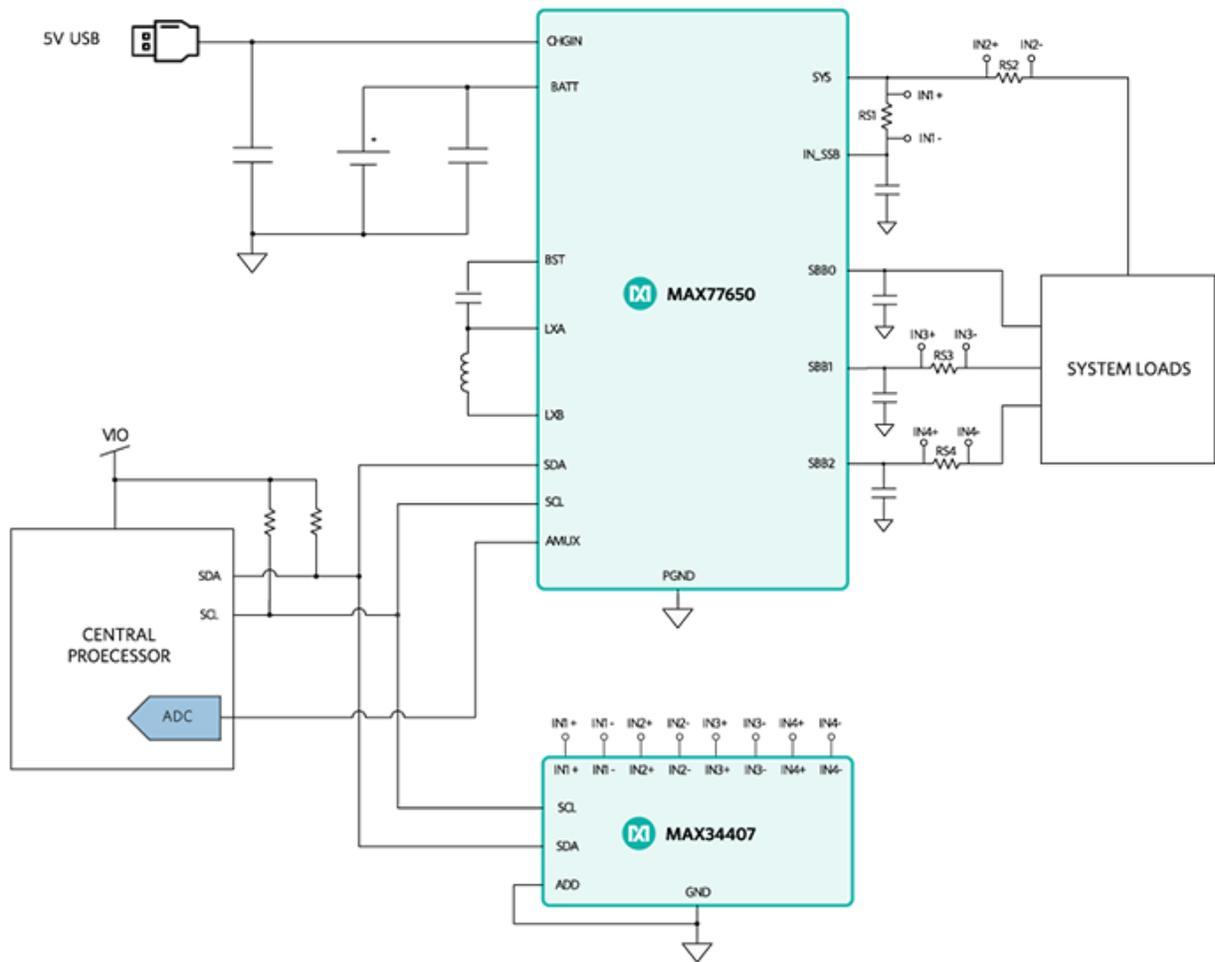

Figure 6. PMIC power monitoring.
**Figure 6** depicts a typical PMIC power monitoring application circuit using the MAX34407 power accumulator and MAX77650 PMIC. The MAX77650 contains a single-inductor multiple-output (SIMO) converter, which uses a single inductor with three integrated buck-boost outputs. This PMIC contains an analog multiplexer (AMUX), which can provide battery (BATT) or charging (CHGIN) information such as voltage or current. For an easy way to measure additional PMIC rails and also provide feedback to the central processor, you can add a power accumulator like MAX34407.